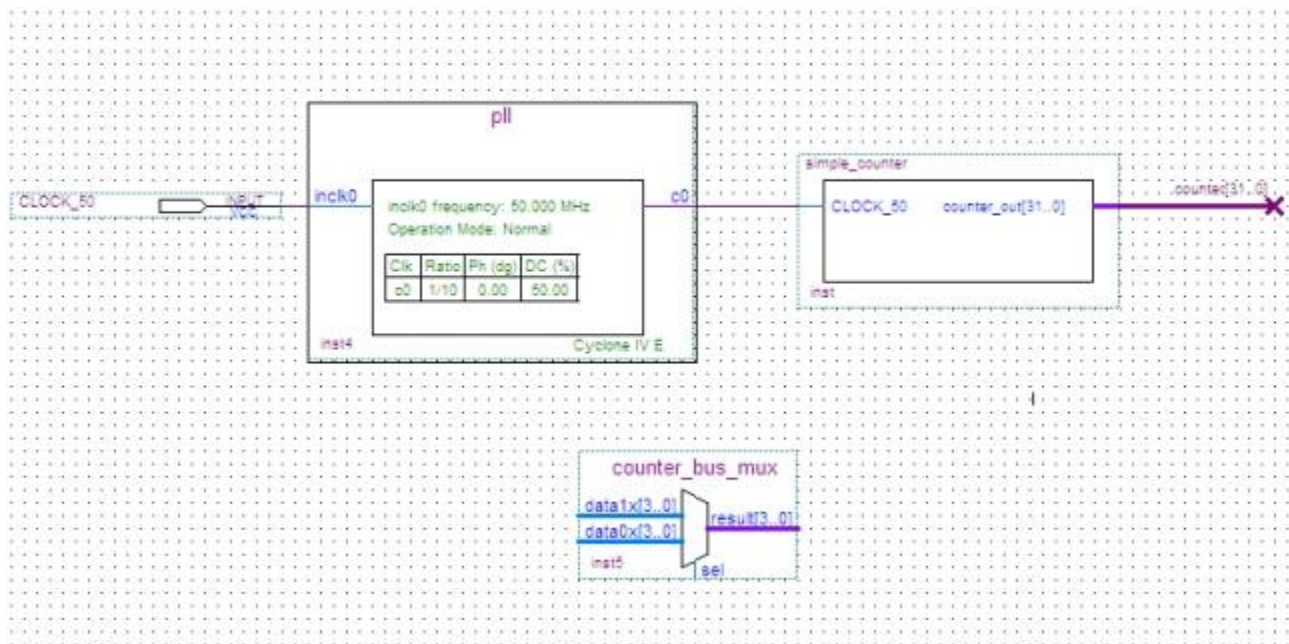

Figure 3-25 Place the lpm_mux symbol
12. Place the counter_bus_mux symbol below the existing symbols on the BDF. See Figure 3-25.